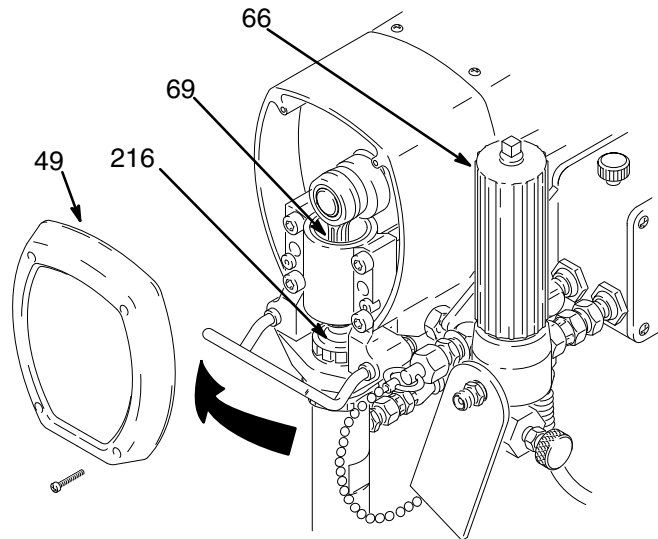

Fig. 6
1. Check the packing nut (216) daily. Relieve the pressure. Keep the packing nut 1/3 full of TSL at all times to help prevent fluid buildup on the piston rod and the premature wear of the packings.
Tighten the packing nut (216), in the direction shown by the bold arrow, just enough to stop leakage. Do not over-tightening the packing nut which may cause it to binding and may cause the packings to wear prematurely. Use a round punch or a brass rod and a lightweight hammer to adjust the nut. See Fig. 6.
2. Clean the fluid filter (66) at least once a day. Follow the flushing procedure on page 15 or refer to manual 307-273, for the cleaning procedure.
3. Lubricate the bearing housing (69) after each 100 hours of operation. Relieve the pressure. Remove the front cover (49). Fill the cavity in the bearing housing with SAE 10, non-detergent oil. See Fig. 6.